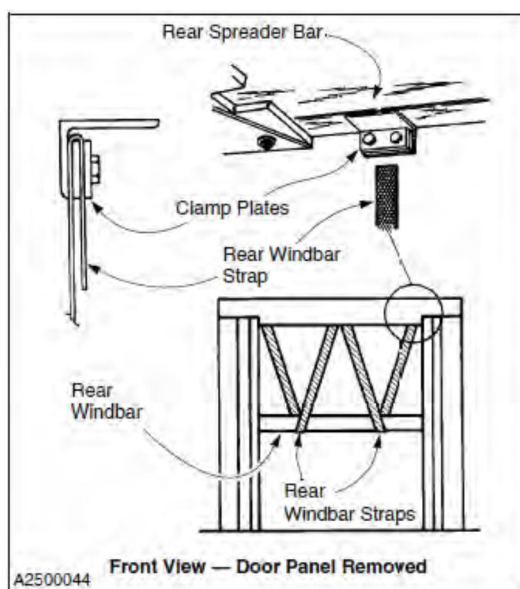

Figure 7
- 12.) Mount the rear windbar strap brackets. (See Figure 7)